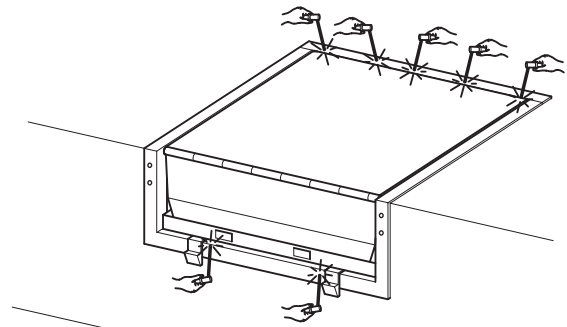

FIGURE 9
9. Spot, space or butt weld the dock leveller rear frame to the pit frame in five (5) places. (See Figure 9)
Weld dock leveller to angle on loading bay and to the front of the free standing unit. (See Figure 9)